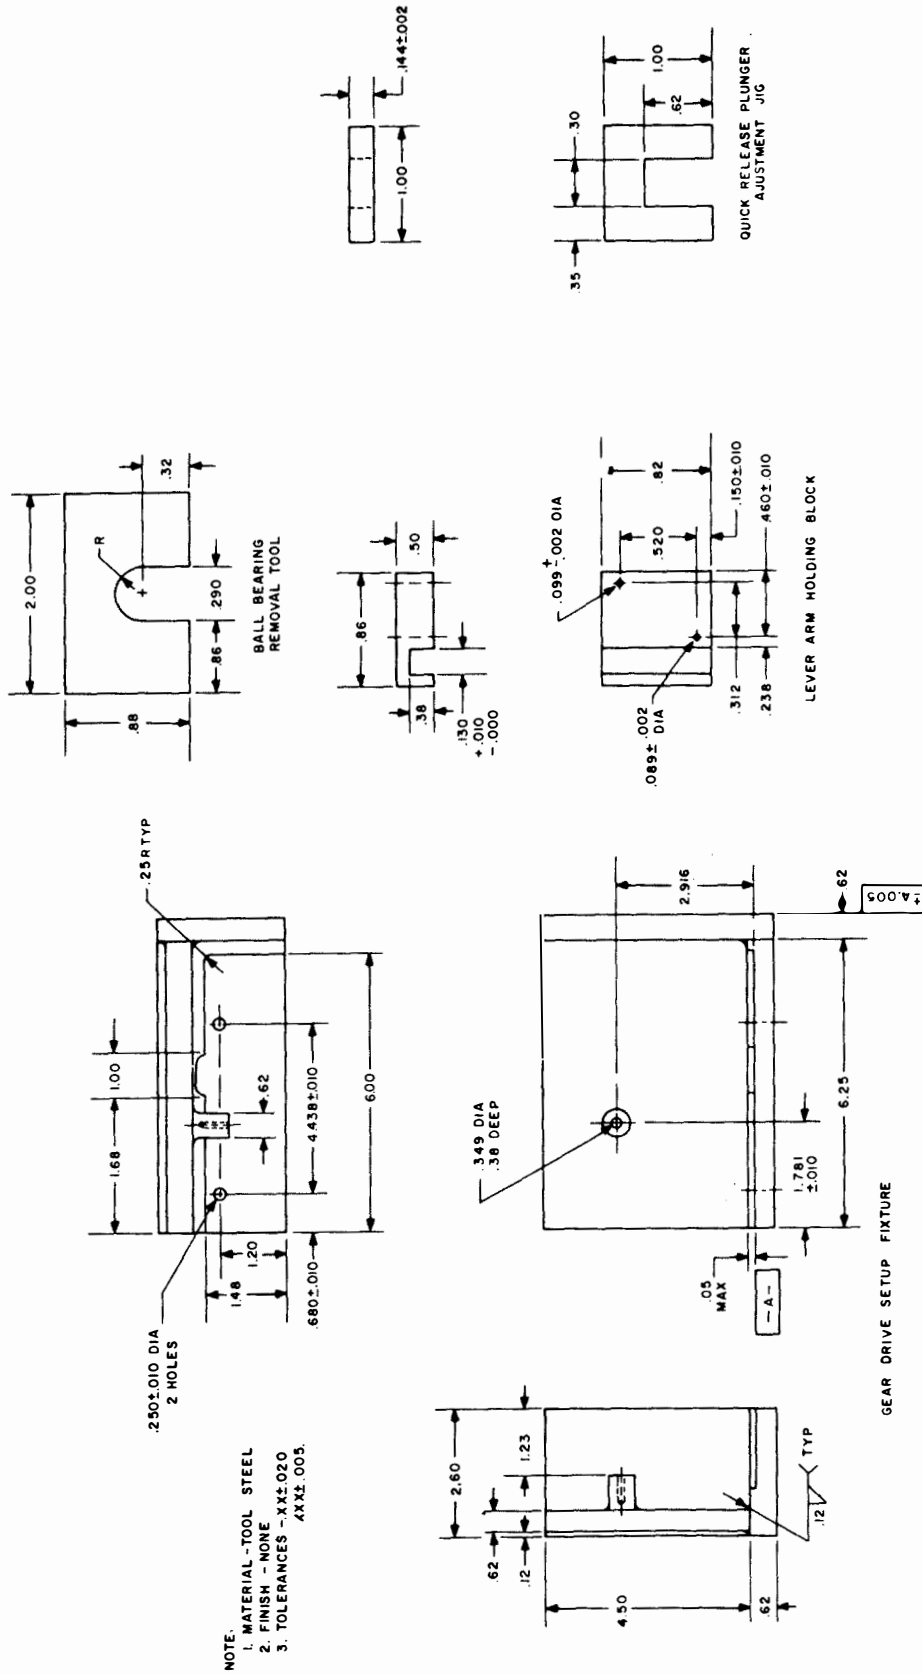

Figure 5-2. Gear Drive Assembly Fixtures and Jigs, Fabrication Diagram
5-26. GEAR DRIVE ASSEMBLY COMPONENT REPLACEMENT. The following procedure details the steps necessary to replace the mechanical components of capacitor gear drive assembly 1A2A1 or inductor gear drive assembly 1A2A3. Perform only those procedural steps required to replace the damaged part. When required to drill holes for pinning parts in new components, use a 0.0625 drill. Replace damaged pins with spring pin NO. MS51987-71. Four assembly fixtures will be required for mechanical alignment during reassembly. Figure 5-2 provides all information required to fabricate these items. Refer to figures 5-4 and 5-6 for locations of parts while performing the procedure.
Prior to performing step u, a careful shim adjustment must be made. Laminated shims at each bearing on the primary shaft assembly must be adjusted to ensure less than one-degree total backlash at primary output shaft (including motor shaft end play), and 0.003 inch clearance between bearing faces and housing face. (Motor must be temporarily secured to gear drive housing to check backlash.) Use the ball bearing removal tool illustrated in figure 5-2 to remove bearings for shim adjustment. Shims must be adjusted by removing 0.002 inch thick laminations. One degree of total backlash equals 0.017 inch at a one inch radius measured at primary output shaft. An increase of one 0.002 inch shim lamination at output end bearing will decrease backlash of primary shaft 0.004 inch (14 minutes) at a one inch radius.
x. Set gear drive housing on gear drive setup fixture (figure 5-2). Orient secondary shaft so that tripper pin on secondary shaft gear is centered in indexing hole on face of setup fixture. Bolt gear drive assembly to test fixture.
The lever arm holding block (figure 5-2) fits over the top of the end stop switch lever, and is temporarily secured in place of the home end stop switch to orient the end stop switch lever for pinning.
- af. Position quick release plunger adjustment jig (Figure 5-2) in front of home end stop switch over switch actuator button.
- d. Position quick release plunger adjustment jig (figure 5-2) in front of replaced end stop switch over the switch actuator button.